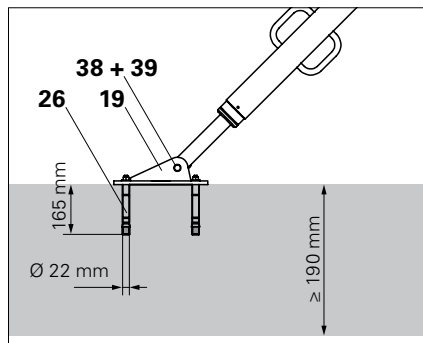

Fig. B7.04a
1. Fix Bracing Shoe RCS (19) to the bottom slab using Heavy-Duty Dowels (26/27).
2. Mount Heavy-Duty Spindle in the Bracing Shoe by means of fitting pins (38) and cotter pins (39). (Fig. B7.04a – B7.04d)